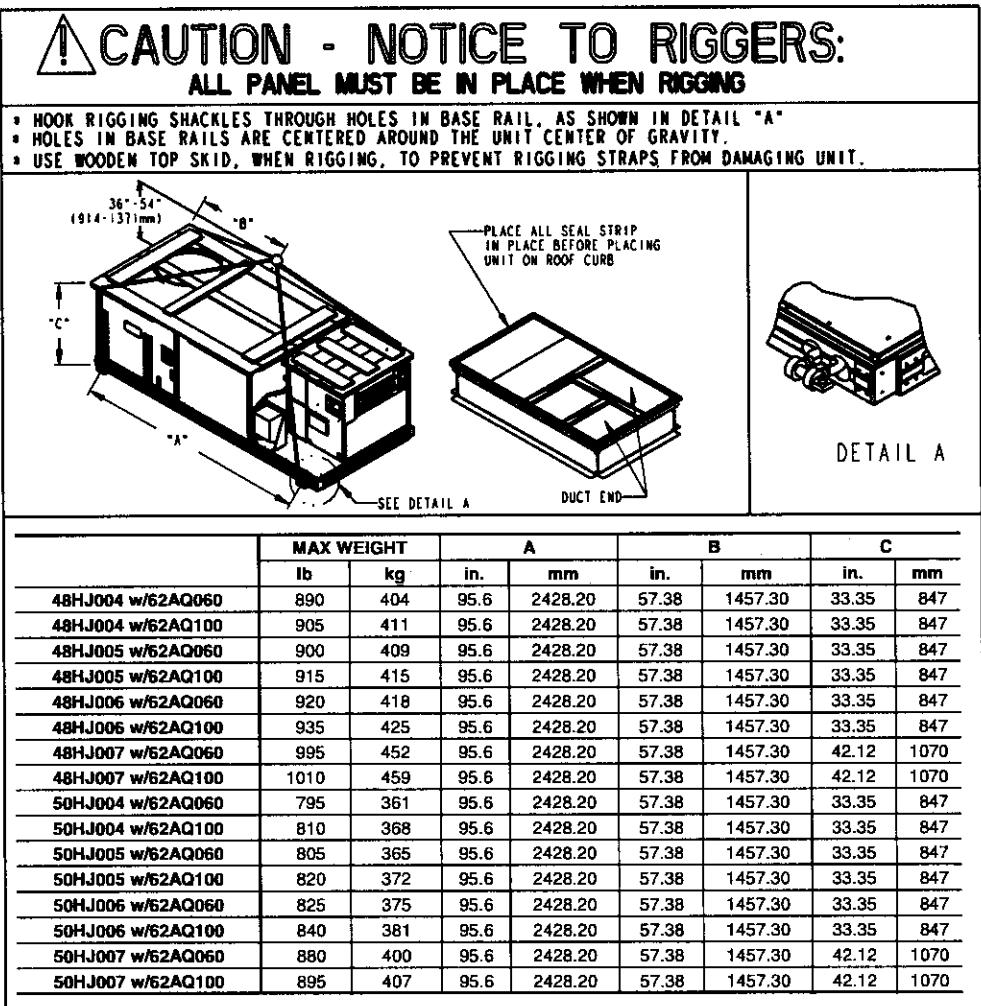

Fig. 6A — Rigging Label — COBRA™ Energy Recovery Unit — Sizes 48/50HJ004-007
**Step 4 — Rig and Place Unit** — Keep unit upright and do not drop. Spreader bars are not required if top crating is left on unit. Rollers may be used to move unit across a roof. Remove the bottom wooden skids that are under the unit by removing the wooden plates that hold the bottom wooden frame to the unit. Level by using unit frame as a reference. Lifting holes are provided in base rails as shown in Fig. 6A and 6B. Refer to rigging instructions on unit.